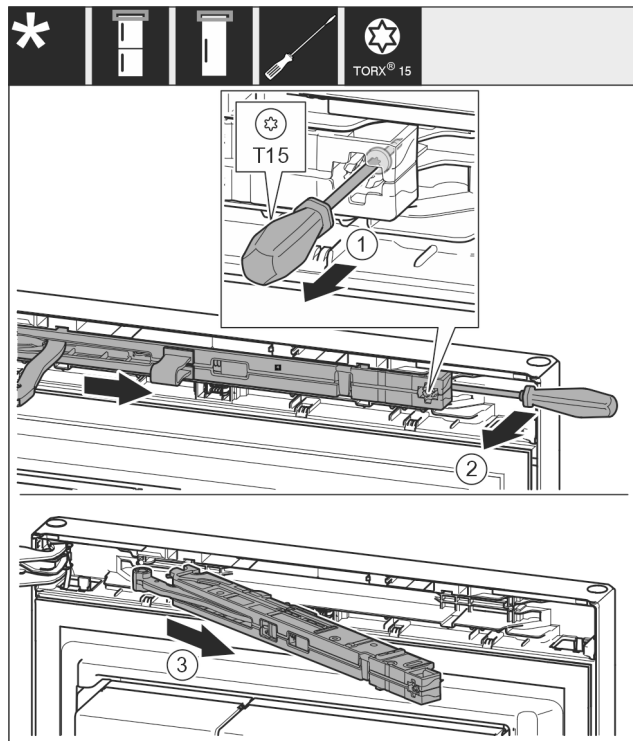

Fig. 9
- ▶ Undo the soft stop mechanism screw with a T15 screwdriver approx. 14 mm (9/16 in). Fig. 9 (1)
- ▶ Insert a screwdriver behind the soft stop mechanism on the handle side and rotate the unit forwards. Fig. 9 (2)
- ▶ Pull out the soft stop unit. Fig. 9 (3)